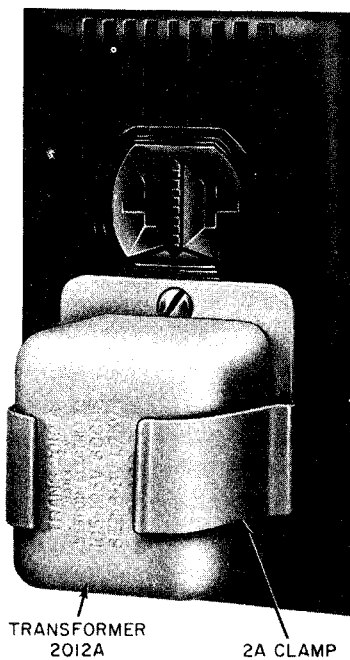

Fig. 5—2A Clamp
4.05 A 2A clamp should be used to secure the 2012-type transformer to a standard electrical service outlet (Fig. 5). The 2A clamp will prevent the transformer from being accidentally dislodged from the outlet.